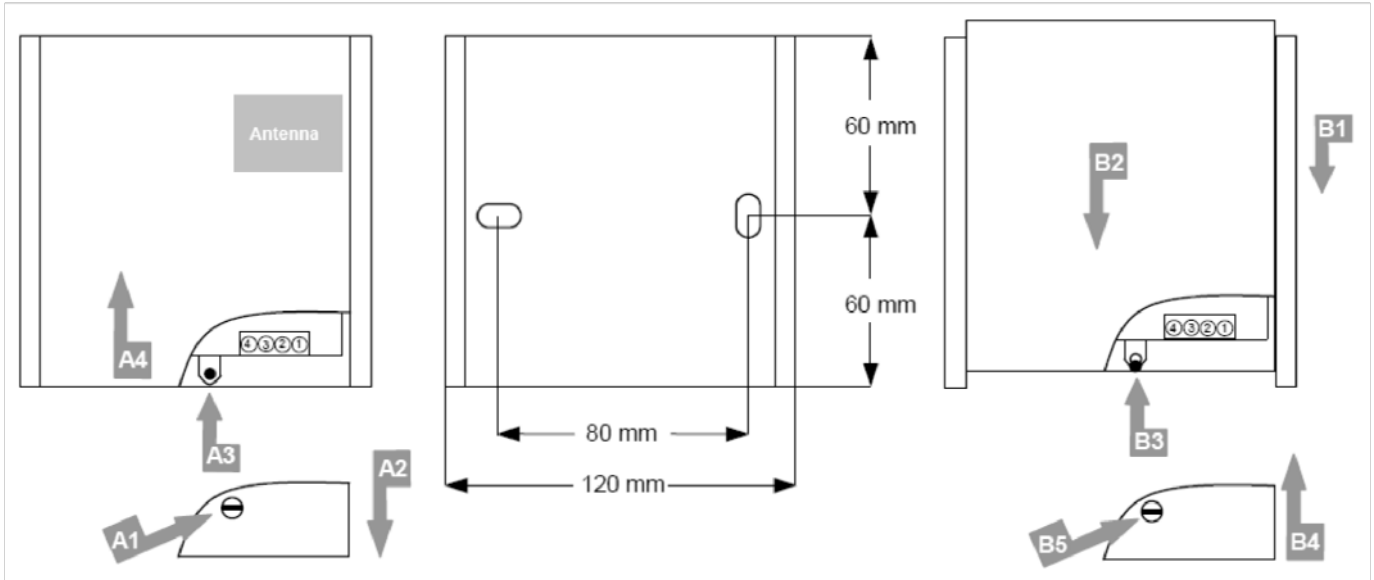

Figure 1. Installation
**Wall holder:** Wall holder is fixed with two 5 mm screws on a smooth and even surface. Drill appropriate holes with spacing of 80mm (see Figure 1).